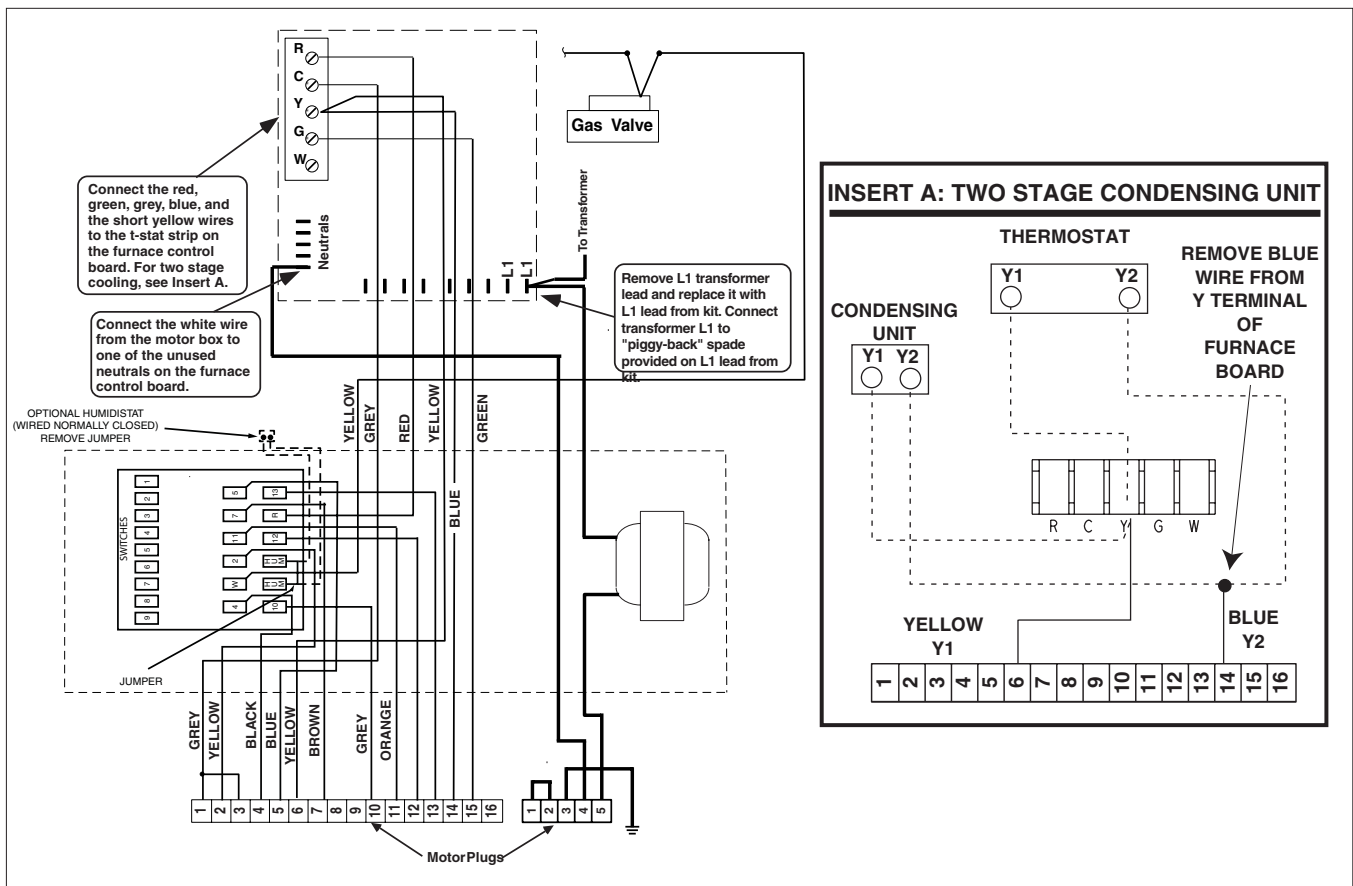

Figure 2. Wiring Diagram
1. Connect wires to the furnace according to the wiring diagram, Fig. 2. Use the "Y" adapter supplied in the literature pouch to connect the long yellow wire to the gas valve. Connect the remaining wires for power supply and thermostat interface according to Fig. 2.
When connecting with a two-stage condensing unit, reference Insert A on Figure 2.